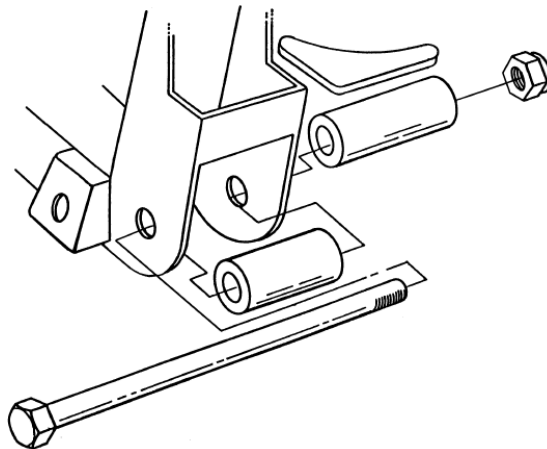

Figure 2- Crossmember Spacers Install
5. If you purchased a complete I.F.S. Package from HEIDTS, it was supplied with Full Lower A-Arms. Begin by installing the Spacers onto the crossmember. The holes where the lower control arms attach to the Crossmember must be enlarged to 5/8". Mount the Crossmember Spacers and the Rear Spacers which were supplied with the Lower Control Arms onto the Crossmember as shown in **Figure 2** using the supplied Inner Bushing Bolts, Nuts and a temporary spacer under the Nuts. DO NOT use the A-Arms for this operation as the welding heat will melt the rubber bushings. Tighten the Bolts and Nuts tight. Weld the Rear Spacers to the Crossmember all around. Weld the Crossmember Spacers as far as possible inside the crossmember on both ends. Position the Gussets horizontally, not vertically, against the Rear Spacers and the back of the Crossmember. Weld Gussets to Spacers and Crossmember. When it cools, remove the bolt.